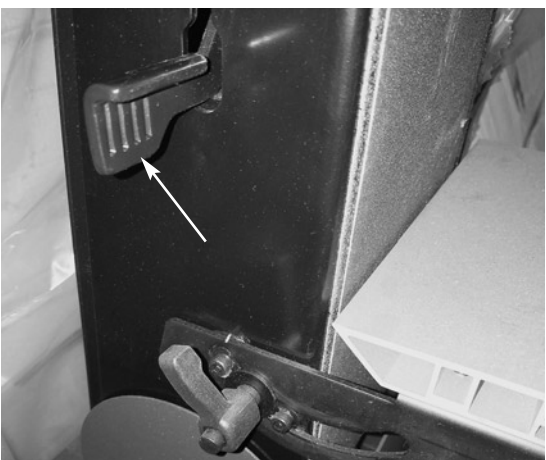

Figure 23
4. Lift and hold the middle tab, this will loosen the belt (Figure 23).